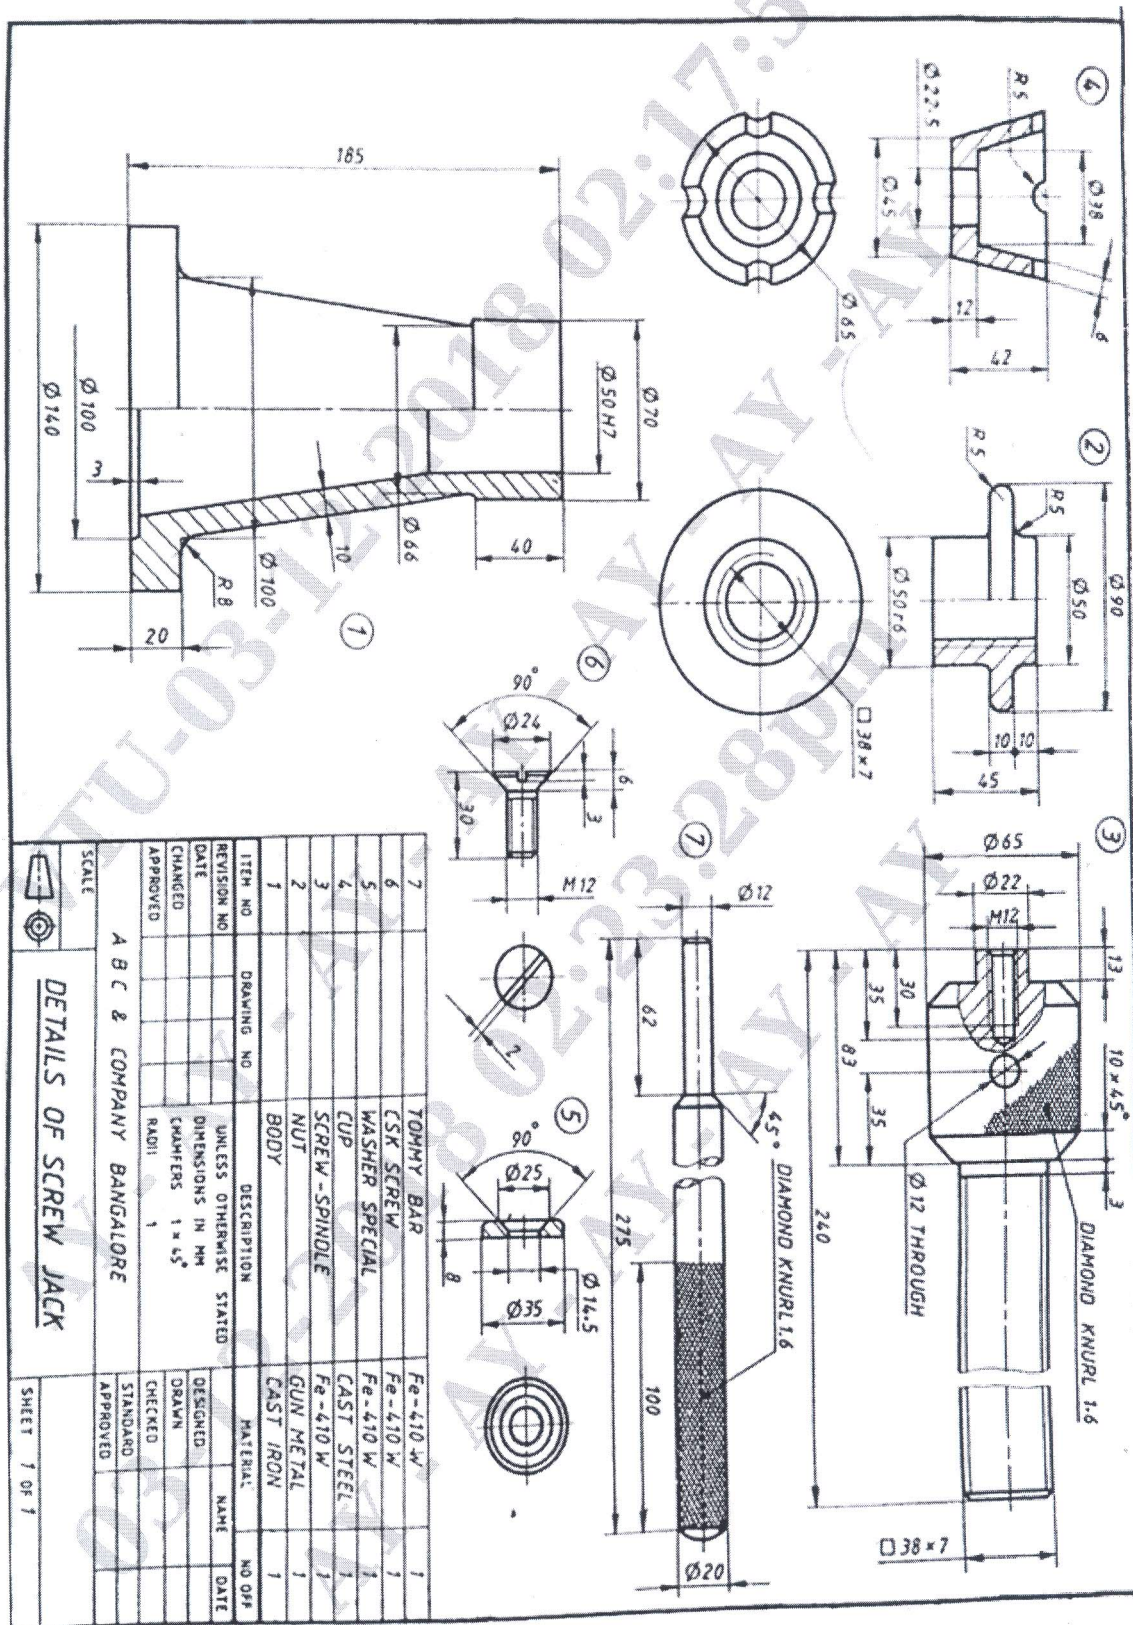

Figure 2
- Q.No.6** Figure 2 shows the part drawing of a “RAMS BOTTOM SAETY VALVE”. Assemble parts and show the following views.